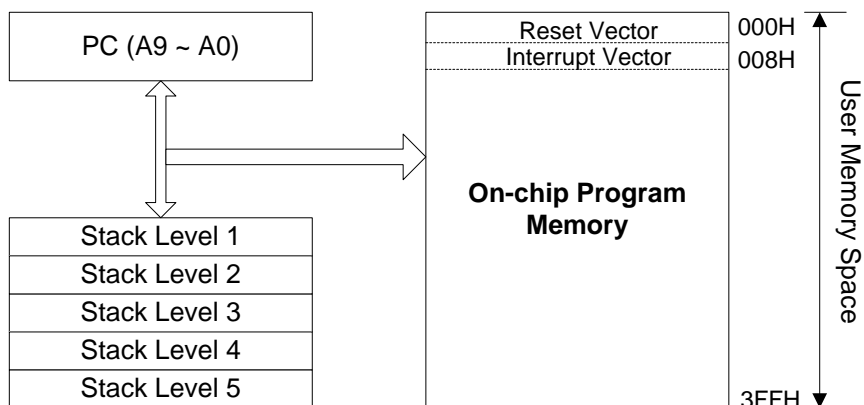

Figure 6-1 Program Counter Organization
- Depending on the device type, R2 and hardware stack are 10-bit wide. The structure is depicted in Figure 6-1.